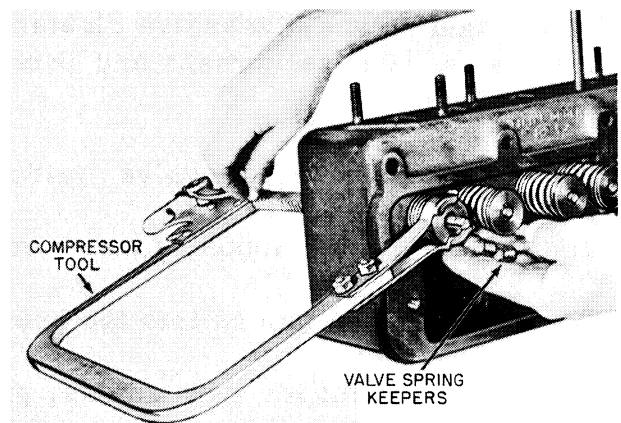

Figure 14 - Removing Valve
1. Place cylinder head on its side. Use a valve spring compressor tool to compress each spring until the valve stem retainer locks can be removed. Figure 14.